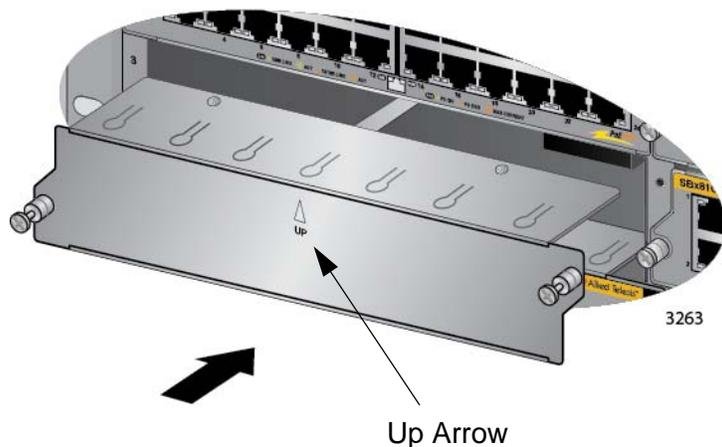

Figure 90. Installing a Blank Slot Cover
1. Position a blank slot cover over an unused slot, as shown in Figure 90. The up arrow on the panel must be pointing up.